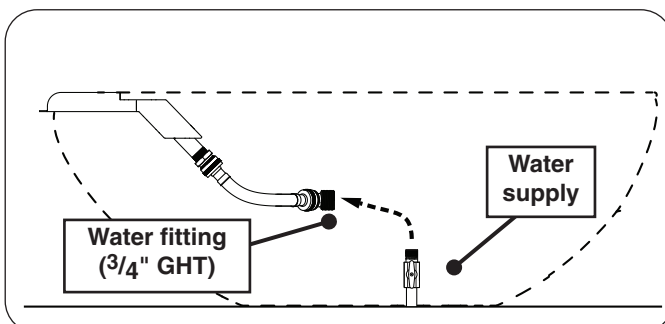

Fig. 30-2 Connect water supply (if applicable)
2. Plumb the water supply to the 3/4" GHT fitting (see Fig. 30-2).